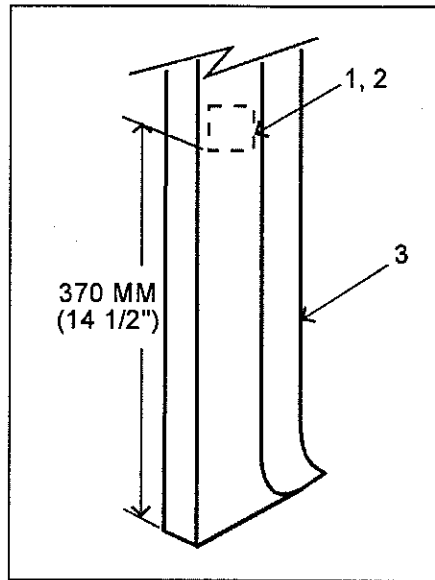

FIGURE 2
11. Peel off one protective paper from double coated foam tape (2), then affix tape on spacer (1).
12. Peel off the second protective paper then affix tape (with spacer) on inner face of new moulded plastic trim (3) as shown in figure 2.